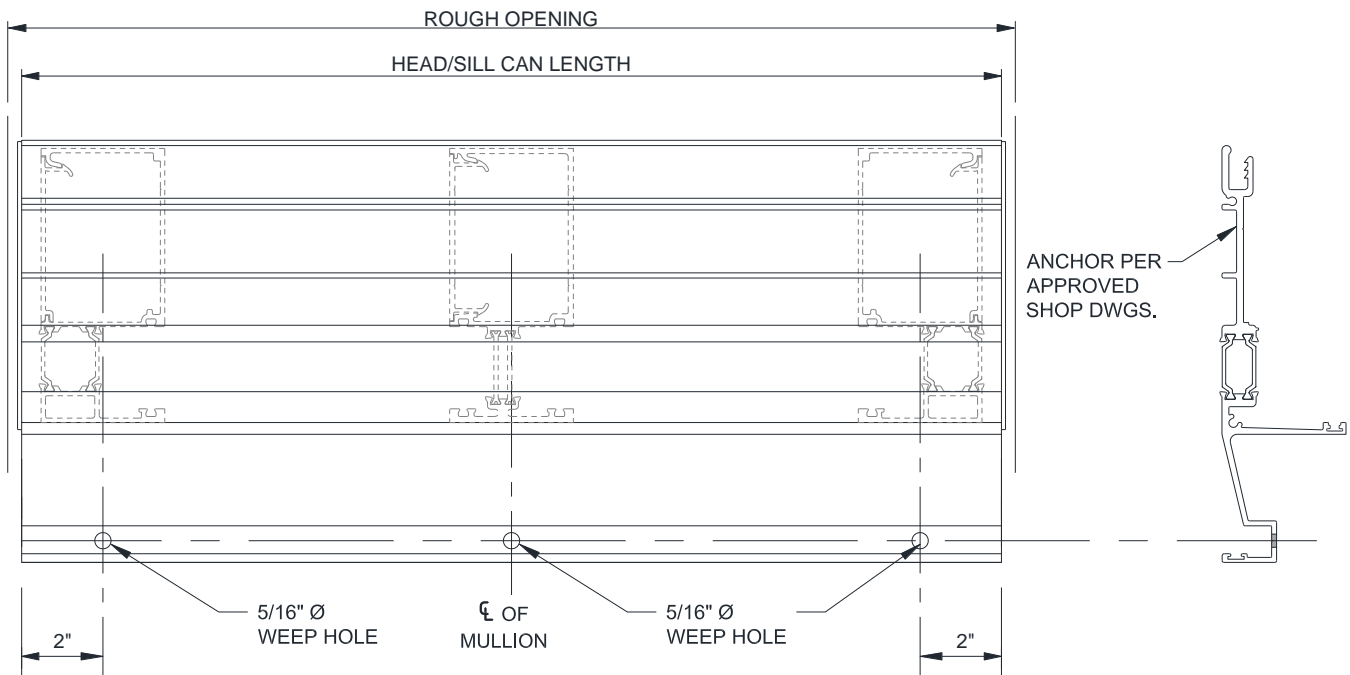

Figure 16: TWW 515 Head Receptor
7.2 If using the **TWW-515** Head Receptor, drill 5/16" Ø weep holes in the "V" groove at the front of the Head Receptor at the center of each Vertical and the midpoint of each D.L.O. between Verticals. See *Figure 16*.